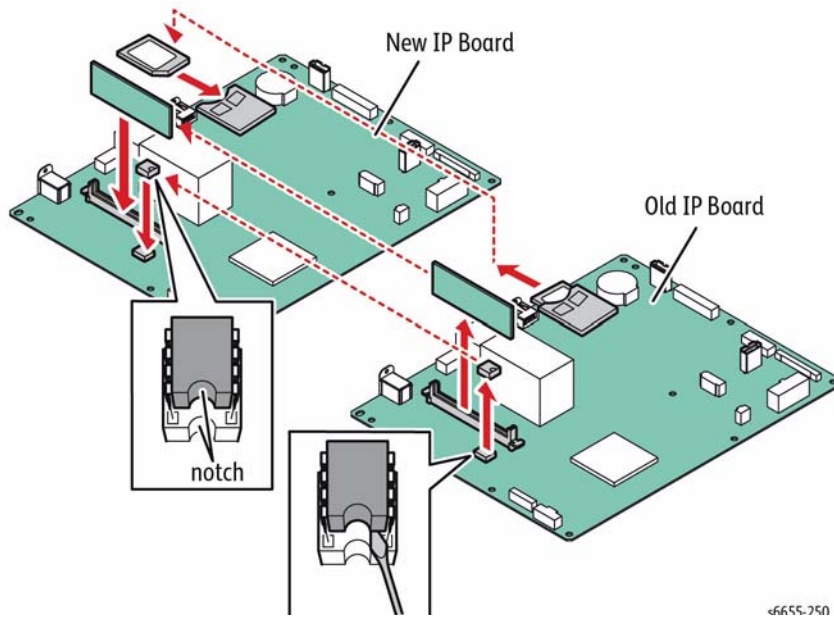

Figure 1 Remove the DDR3 DIMM Module Assembly
3. Refer to Figure 1 to locate the DIMM Module and use the ejector tabs to remove the module.